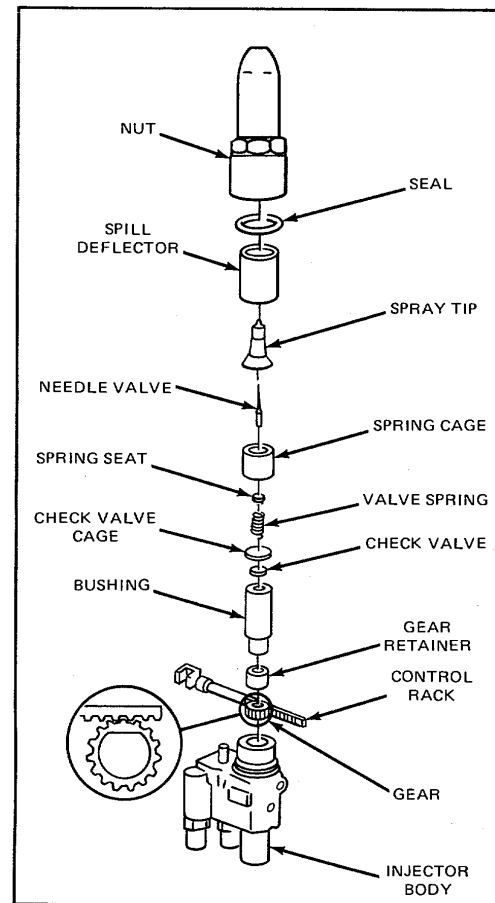

Figure 37. Injector Rack, Gear, Spray Tip, and Valve Assembly Details and Relative Location of Parts
Refer to Fig. 37 and note the drill spot marks on the control rack and gear. Then proceed as follows:
2. Place the gear in the injector body so that the marked tooth is engaged between the two marked teeth on the rack (Fig. 37).
Refer to Fig. 37 and assemble the parts as follows: